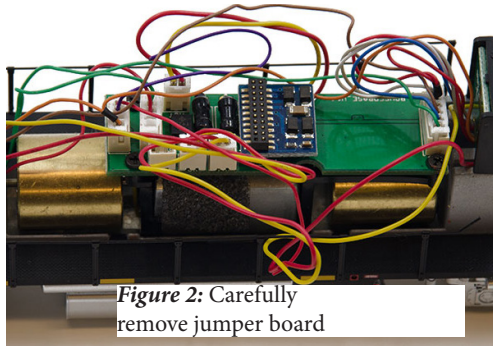

Figure 2: Carefully remove jumper board
2. Remove the jumper board from the locomotive's 21MTC pins. (**Figure 2**) The jumper board allows the loco to operate on a standard DC track or in analog mode on a DCC track. **If the loco also has a 8pin NMRA socket, any jumpers should also be removed.**